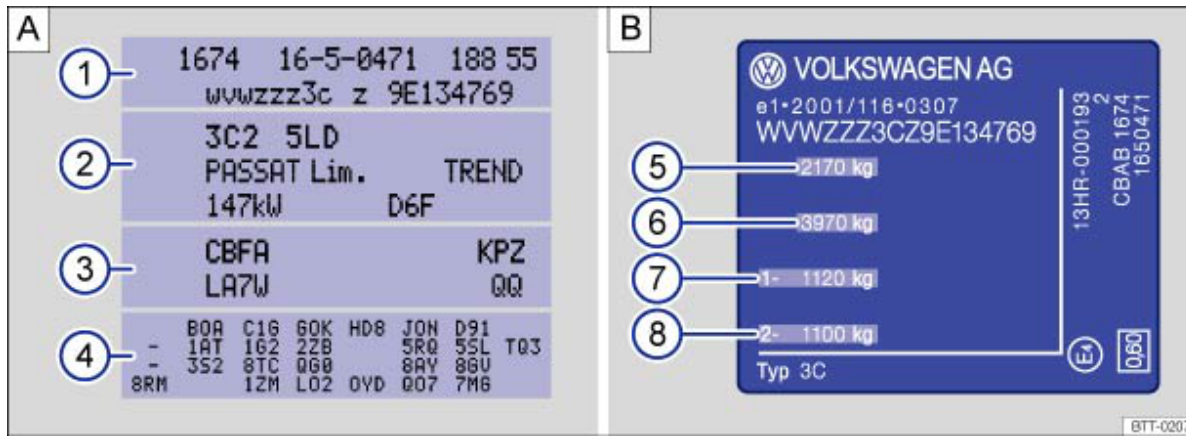

Fig. 17 (A) Vehicle data sticker: example shows a vehicle with engine code CBFA © (B) Type plate
The vehicle data sticker → Fig. 17 A is in the spare wheel well area in the luggage compartment. It contains the following data:
- ① Vehicle identification number (chassis number)
- ② Vehicle type, engine power, gearbox type
- ③ Engine and gearbox code, paint number, interior equipment. In the example, the engine code is CBFA → Fig. 17.
- ④ Optional extras, PR numbers
The type plate → Fig. 17 B can be seen on the lower part of the door pillar when the door is open. Vehicles for certain export countries do not have a type plate.